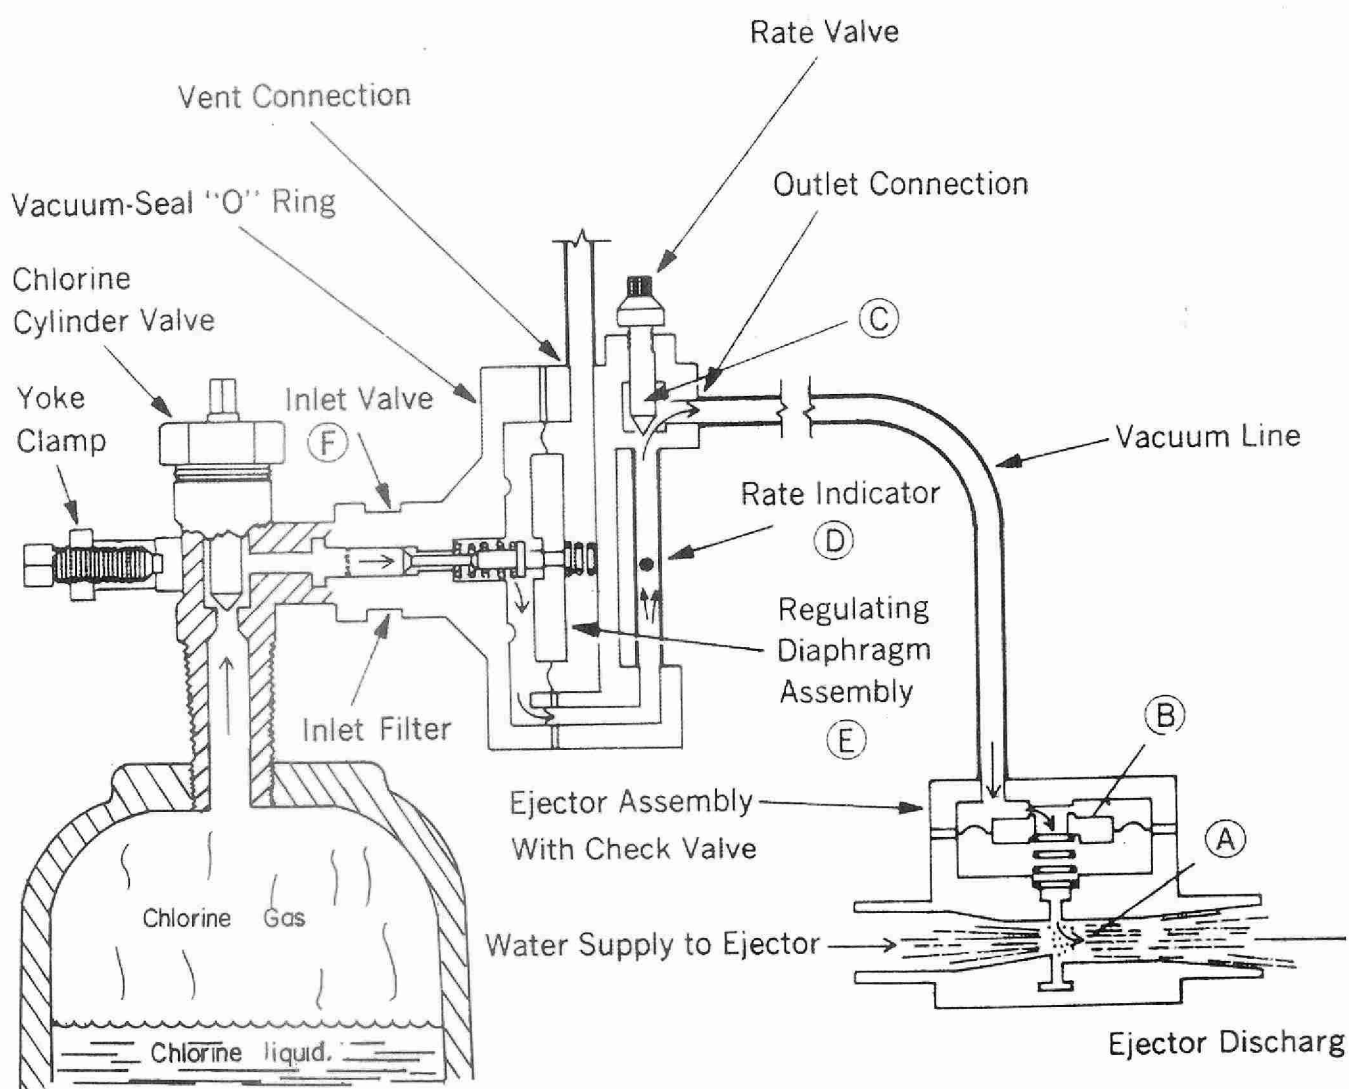

FIGURE 4-3 ADVANCE GAS CHLORINATOR
Figure 4-3 illustrates the flow diagram for the Advance Chlorinator. Water passing through the injector under pressure at point (A) forms a vacuum and causes diaphragm (B) to be pulled away from the seat. This allows the vacuum to be transmitted to the rate valve (C). If the rate valve is open, the vacuum is transmitted through the rate indicator (D) to the regulating assembly (E). This pulls the regulating diaphragm in regulating assembly (E) towards the chlorine inlet valve (F), opening it and allowing chlorine gas to enter the system and pass through (E), (D), (C), (B) to (A) where it is mixed with water and discharged to the point of application.